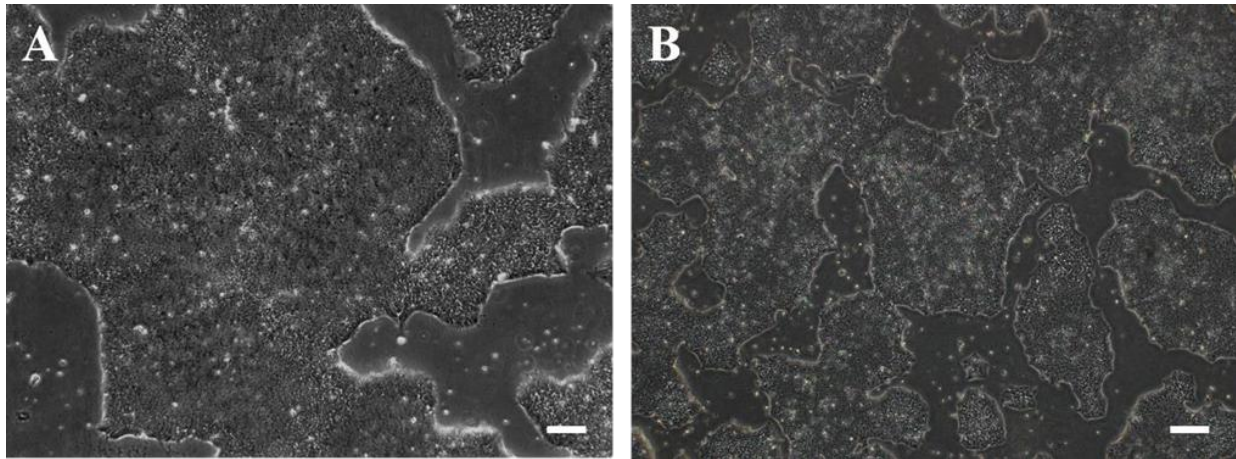

Figure 1: hiPSC clones at approximately 85% confluence.
- 1) When cell confluence reaches approximately 85% (Figure 1), normally 4 days after seeding. Even if the clones are small and confluence is insufficient, continuous culture should not exceed 5 days.
The passaging ratio can range from 1:5 to 1:20 depending on cell growth status and experimental requirements. If cells are healthy, with 85% confluence and uniform clone size (Figure 1), a 1:10 ratio is recommended. Reduce the ratio if cell density is low; increase the ratio if density is high.
1. When the cell confluence reaches about 85% (Figures 1), cells can be harvest for cryopreservation. Typically, 2×10^6 – 4×10^6 viable cells per well of a 6-well plate can be collected and frozen in one cryovial.